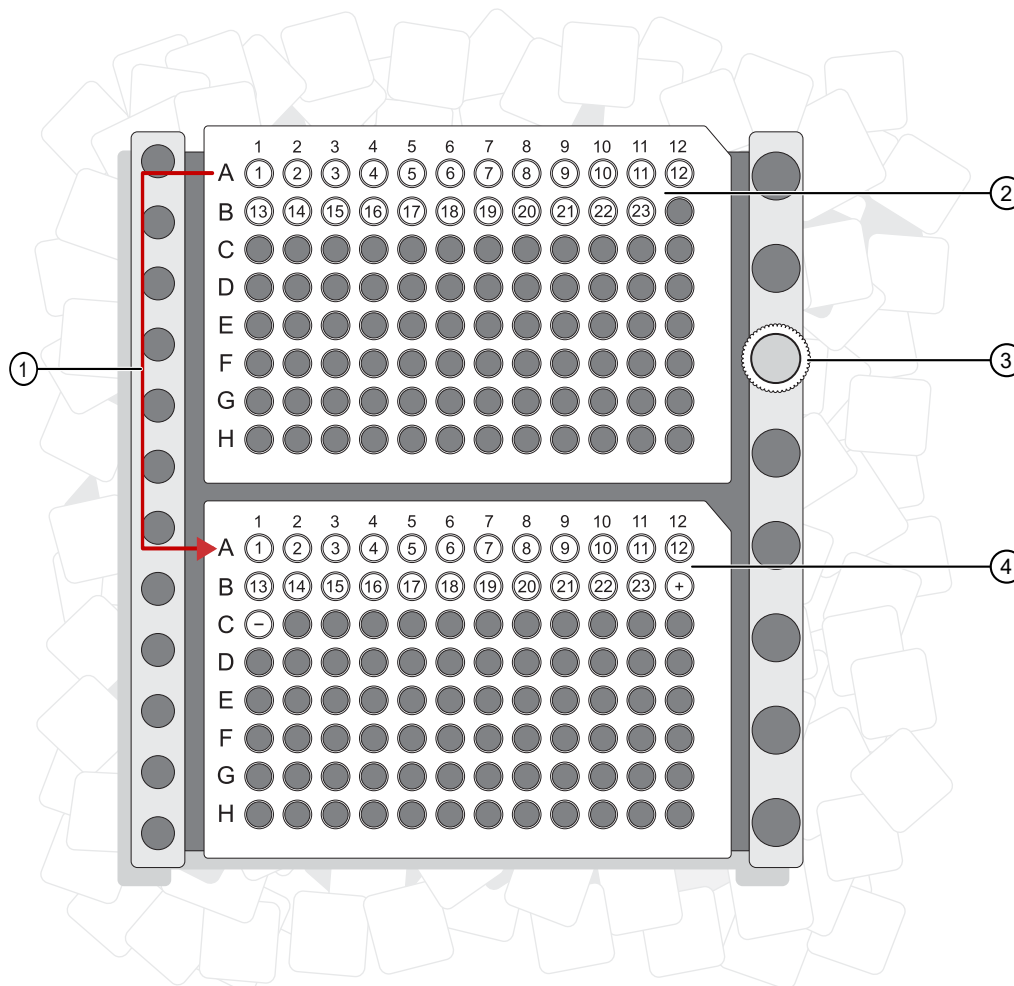

Figure 9 Setup for aliquoting diluted gDNA and controls to a 96-well plate labeled for digestion/ligation.
3. Transfer a 5 μ L aliquot of the samples to designated wells of the digest/ligate plate. (Figure 9.)